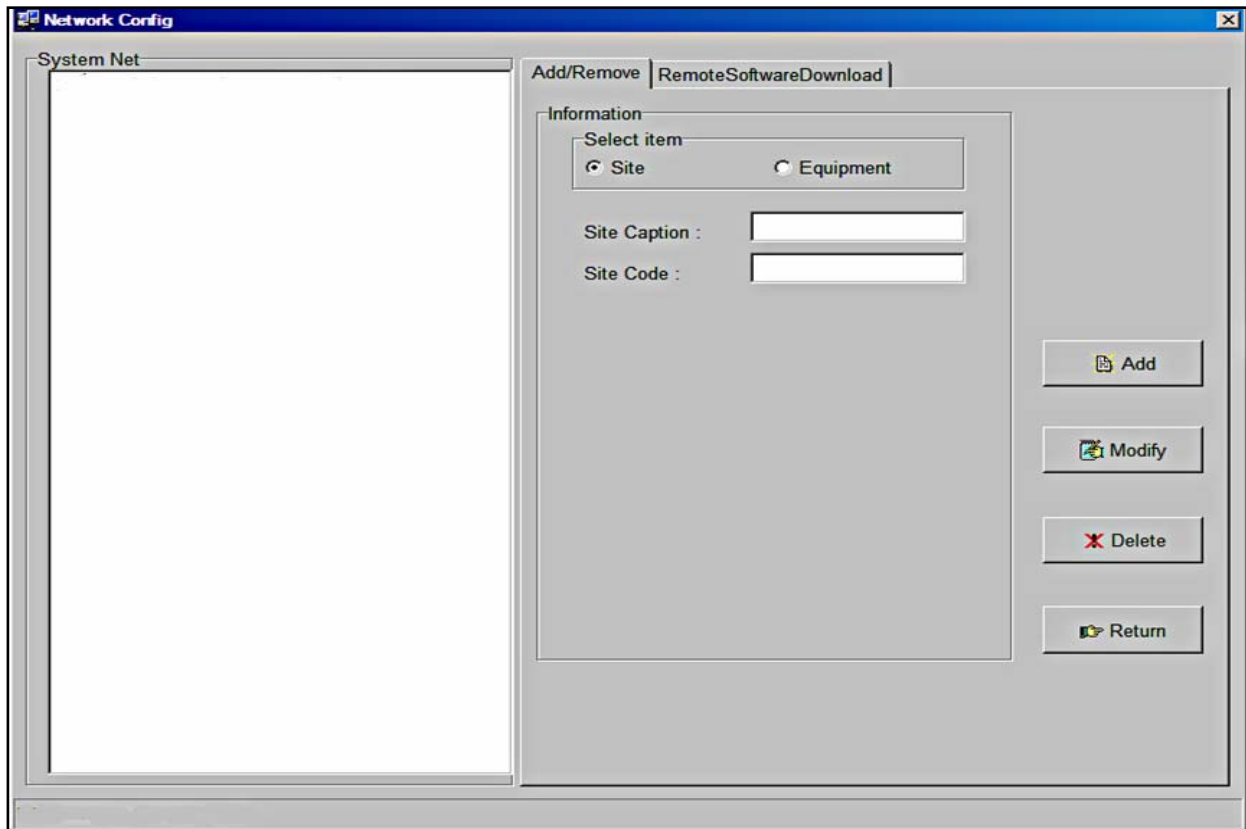

Figure 5-7. Add a Site
2. Click on the *Site* button in the *Select Information* field, **Figure 5-7**.